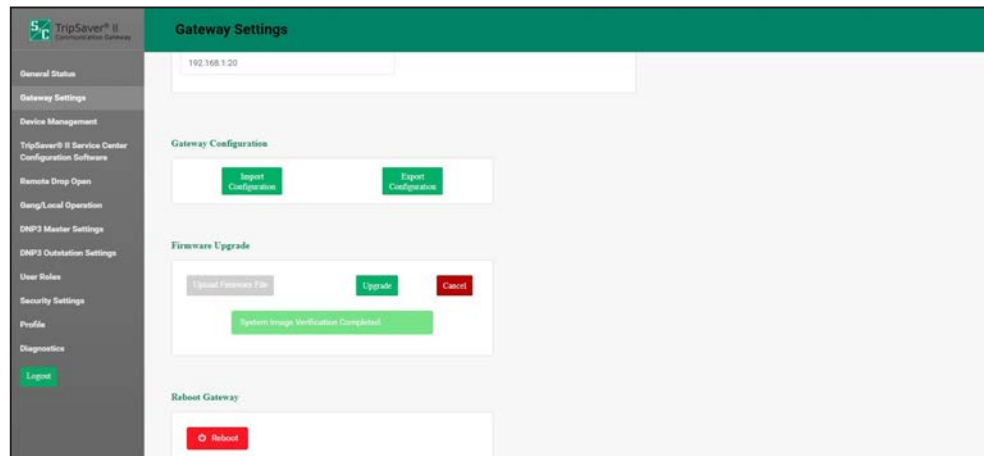

Figure 32. Start the firmware upgrade process by clicking on the Upgrade button.
**STEP 7.** Click on the **Upgrade** button. This will start the upgrade process. See Figures 32 and 33.